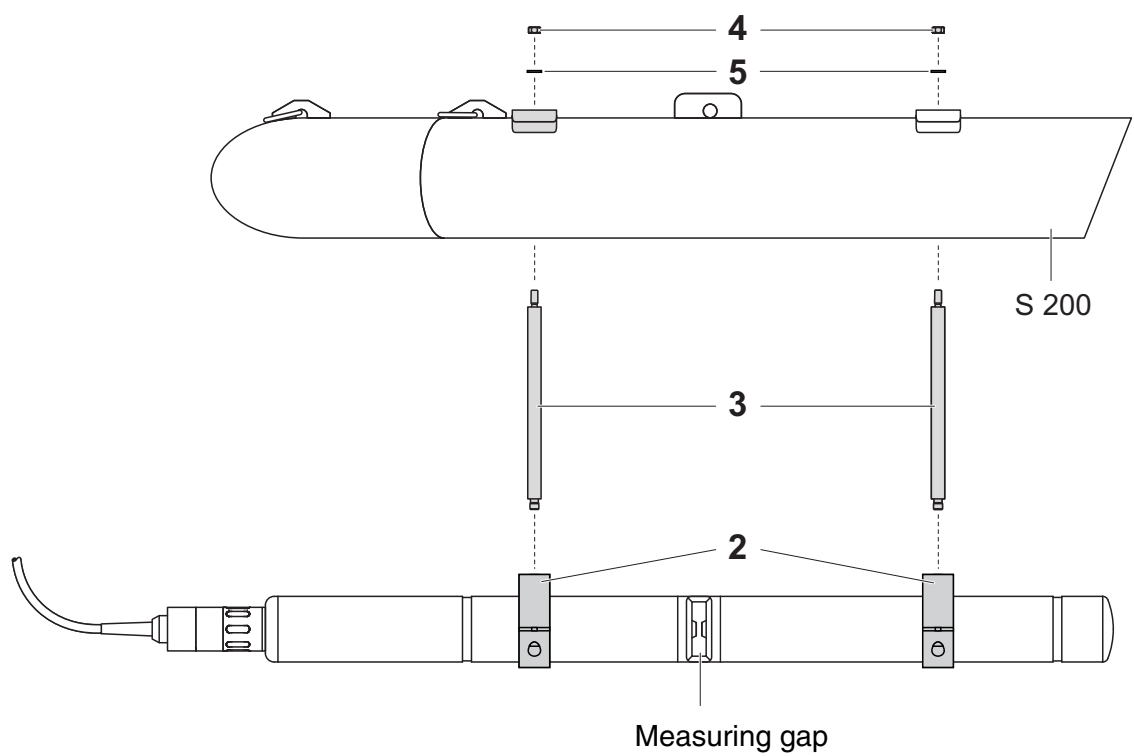

Figure 2: Lateral view
- Fix both pipe clips (2) to the sensor as shown in figure 2. Do not yet completely tighten the screws of the pipe clips.
- Screw the distance bolts (3) into the pipe clips. Then insert the free ends of both distance bolts through the drillings into the rods and screw on the two nuts (4) with the washers (5).